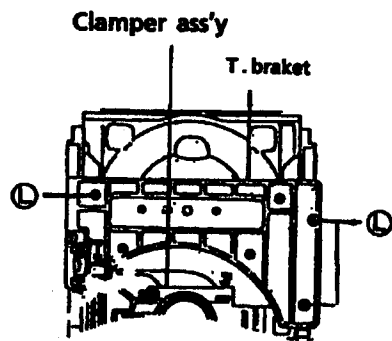

Fig.22
4. Remove 3 screws① securing T.Bracket.(See Fig. 22.)